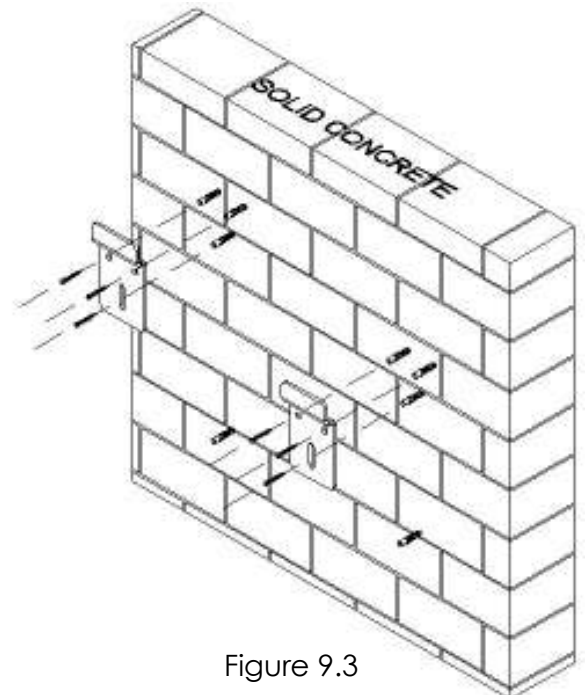

Figure 9.3
- 4) Secure the Wall Bracket **(G)** to the wall by securely tightening six screws **(A)** (see figure 9.3).